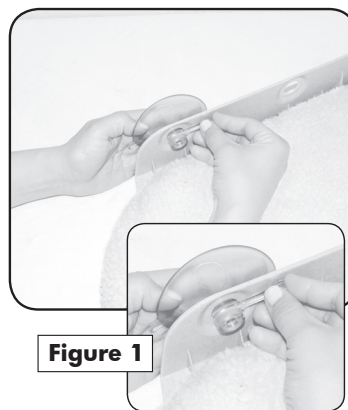

Figure 1
- 3** Insert a suction cup into one of the open holes. Holding the suction cup in place, insert a plastic locking pin into the side of the suction cup as shown. See **Figure 1**. Push the pin all the way through the hole until it locks into place. Once the pin is locked into place you should not be able to remove it from the suction cup. The suction cup is now locked into place on the Kitty Sill frame.